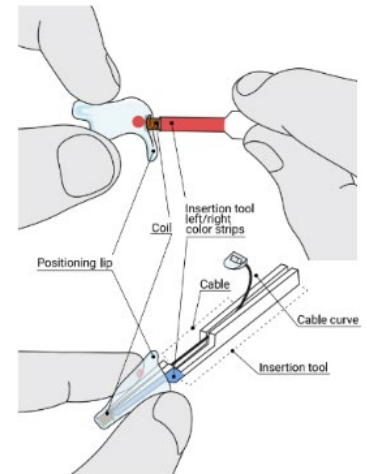

Figure 43: Cable and insertion tool positioning
- Hold the Ear Tip shell with the color dot facing vertically up. Hold insertion tool so that the matching red/blue color strip is aligned with the color dot on the Ear Tip shell (Figure 43).